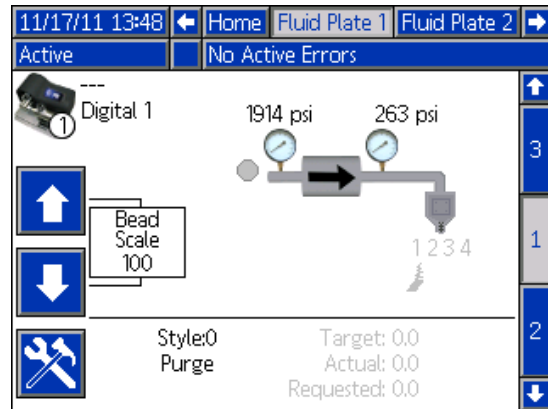

FIG. 36
4. Record the volume dispensed on Fluid Plate x, screen 1. See FIG. 36 on page 48.